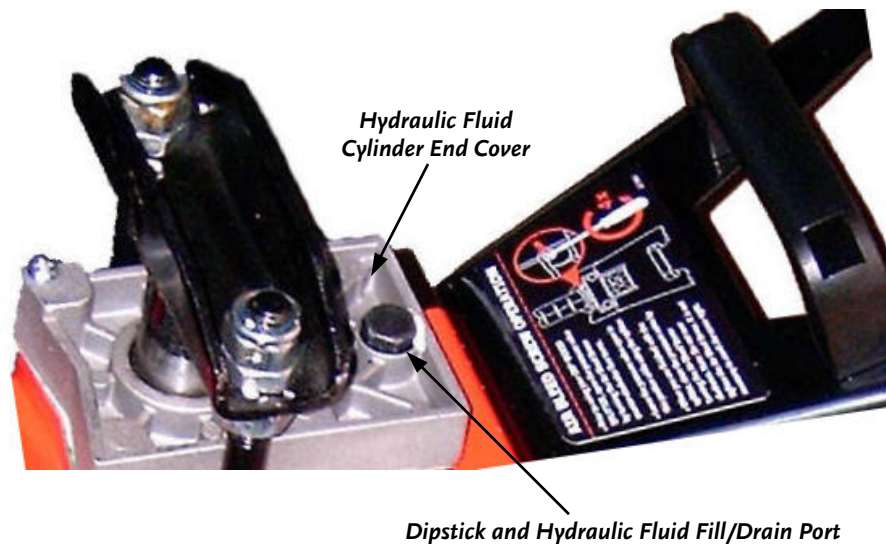

Figure 9
6. Check the hydraulic fluid level by tipping the machine up vertical on the Wheels. Clean the area around the Hydraulic Fluid Fill/Drain Port (**Figure 9**) and then, using an Adjustable Wrench, unscrew the Dipstick located in the Hydraulic Fluid Fill/Drain Port.
3. Clean the area around the Hydraulic Fluid Fill/Drain Port. It is important not to let any debris enter the fluid reservoir (**Figure 9** on page 14). Loosen the Air Bleed Screw and then, using an Adjustable Wrench, unscrew the Dipstick located in the Hydraulic Fluid Fill/Drain Port.